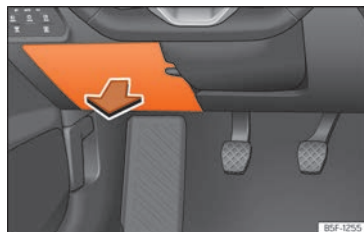

Fig. 55 On the driver's side dashboard: fuse box cover.
- *Open*: fold the cover down »» **Fig. 55**.